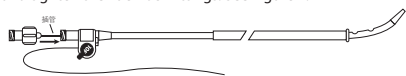

Figure 1
- Slide pigtail straightener along distal portion of catheter to straighten curve prior to placing metal stiffening cannula into the catheter. Place the metal stiffening cannula into the catheter and tighten the Luer lock fittings. See Figure 1.